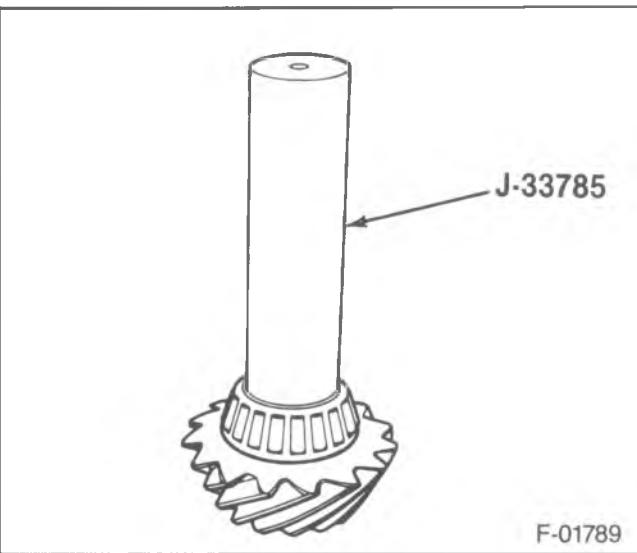

Figure 80—Installing the Bearing
- 11. Bearing (39) onto the pinion gear (37) using J-33785 (figure 80).
- 12. New spacer (40) onto the pinion gear (37).
- 13. Bearing (41) into the case.